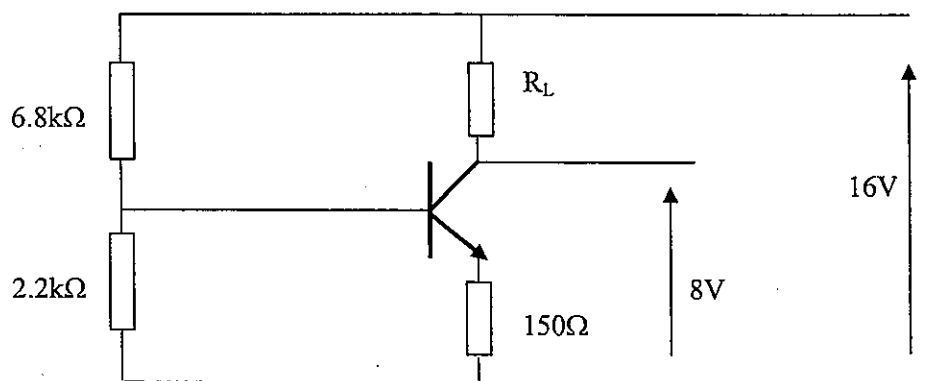

Fig Q3
3. Fig Q3 shows a single transistor stage forming the basis of an amplifier. The voltage between base and emitter is  $0.3\text{V}$  and the d.c voltage at the output terminals is  $8\text{V}$ .